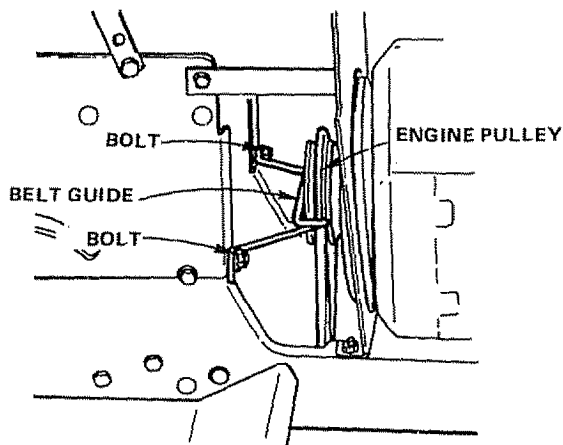

FIGURE 55
- Loosen L.H. Engine Pulley Belt Guide Bolt and swivel Belt Guide onto R.H. Bolt. Tighten L.H. and R.H. Bolts securely (Fig. 55).